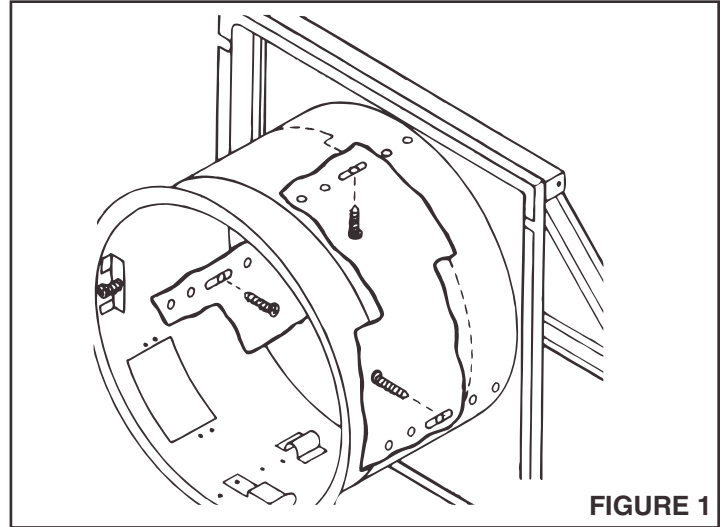

FIGURE 1
1. Refer to **Figure 1**. Pull the inside sleeve out to the desired wall thickness for the the circular flange to be flush with the finished wall.